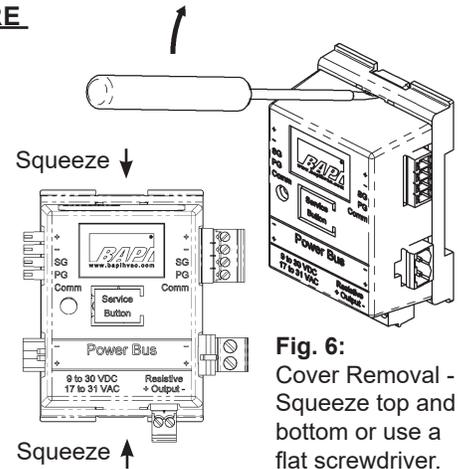
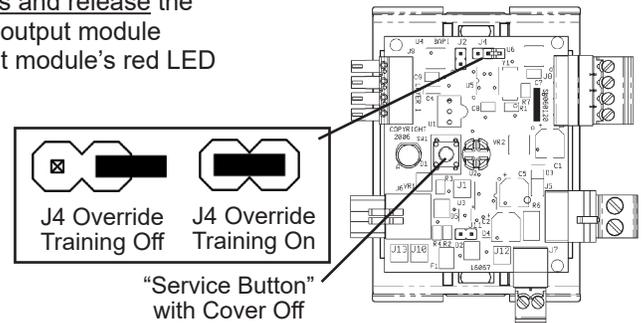

Fig. 6: Cover Removal - Squeeze top and bottom or use a flat screwdriver.
Fig. 7: Override Training Jumper Positions (J4) and "Service Button" with Cover Off
1. An Override function can be added to a Resistance Output Module or Voltage Output Module that has been previously trained to the Temperature variable. (Current Output Modules cannot be used with the override function.) Select the previously trained output module that will have the override function. Remove the cover by squeezing the top and bottom or using a flat screwdriver as shown in Fig 6. Place the module's jumper J4 in the "Override Training ON" position as shown in Fig 7.
4. Press and hold down the "Service Button" on the top of the output module (or on the circuit board if the cover is removed, see Fig 7). Then, press and release the OVERRIDE button on the room transmitter (See. Fig 3). When the output module receives the "Training Override" info from the transmitter, the output module's red LED will light. Release the "Service Button" on the output module and the red LED will go out. This module is now trained to the override function on the room transmitter.
5. Return the jumper on J4 to the "Override Training OFF" position (Fig 7) and replace the output module's cover. Pressing the override on the room transmitter will cause the Resistance Output Module output to go to less than 100 Ohms for 5 seconds or the Voltage Output Module output to go to 0 Volts for 5 seconds.